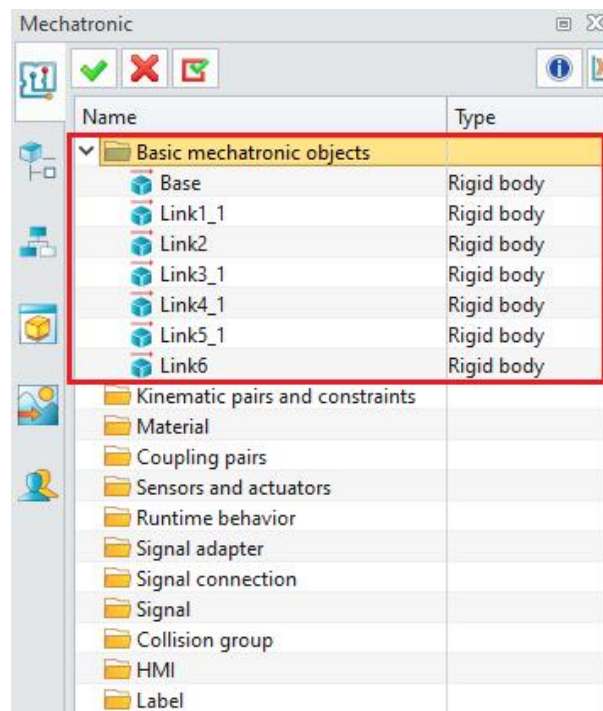

Figure 8-13: seven rigid bodies
- After adding rigid bodies to the seven joint objects, the component details will be displayed. (Figure 8-13)